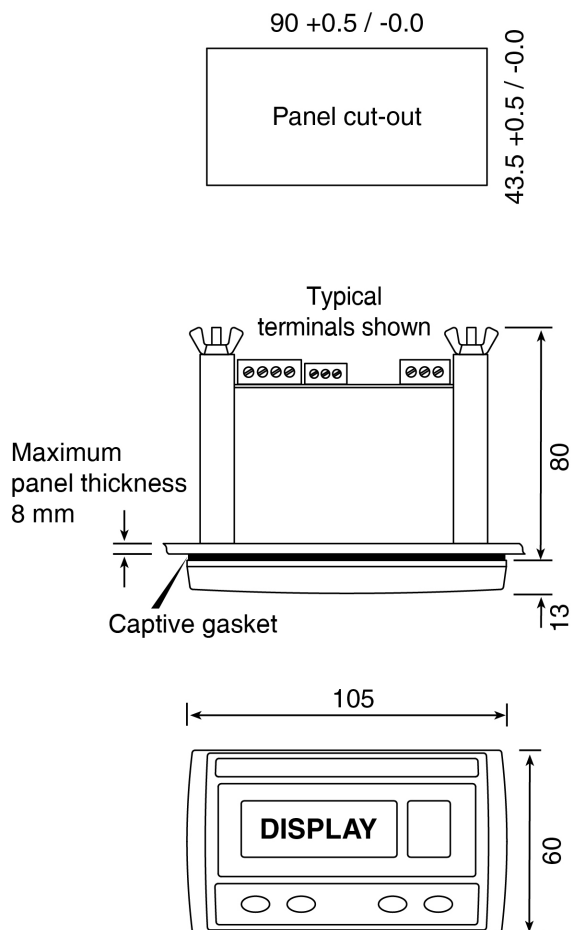

Fig 6 Dimensions
Fig 6 shows the overall dimensions of the BA427E-SS together with the recommended panel enclosure cut-out dimensions.
- Cut the aperture specified in Fig 6 in the panel enclosure. Ensure that the edges of the aperture are de-burred.